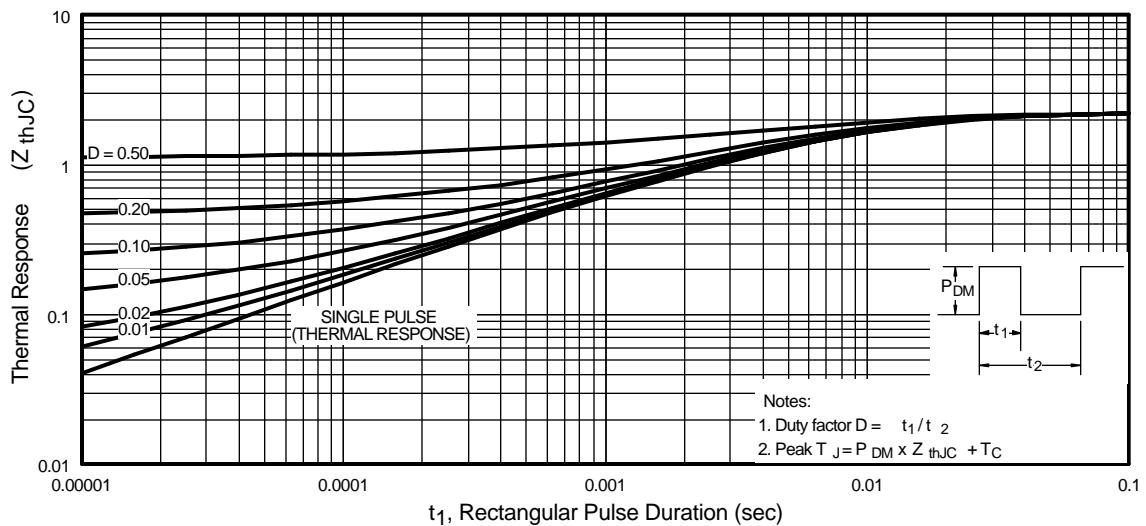

Fig 11. Maximum Effective Transient Thermal Impedance, Junction-to-Case
- ① Repetitive rating; pulse width limited by max. junction temperature. (See fig. 11)
- ② Starting $T_J = 25^\circ\text{C}$, $L = 590\mu\text{H}$